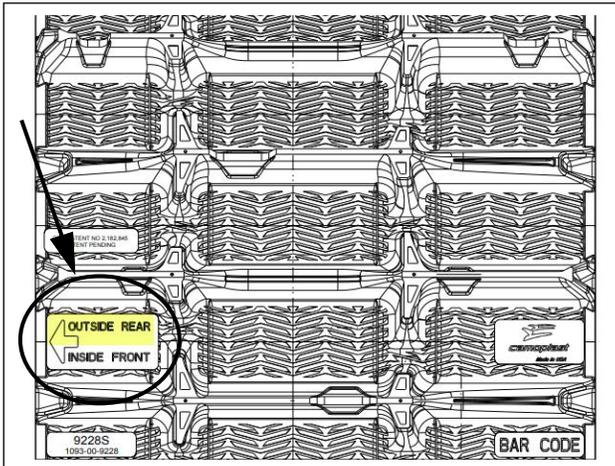

Figure 32
**Rear track:** arrow molded on rear tracks must point out, away from Track system frames. See Figure 32.